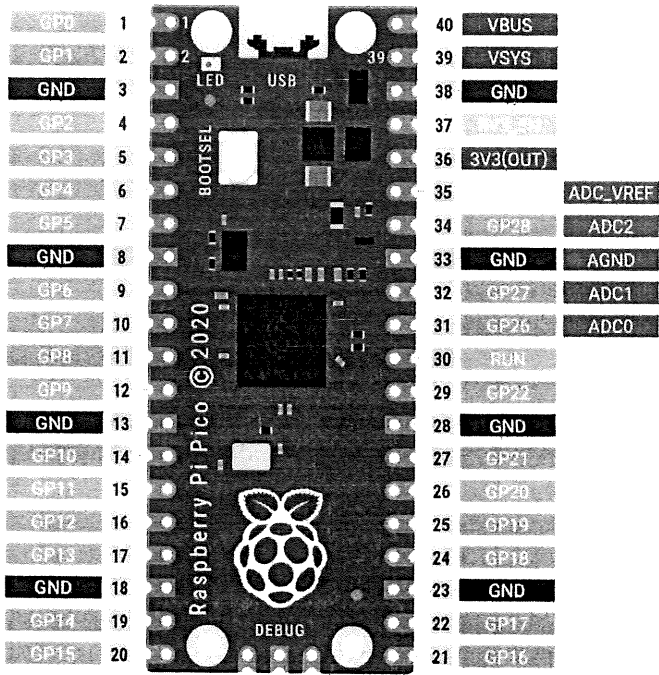
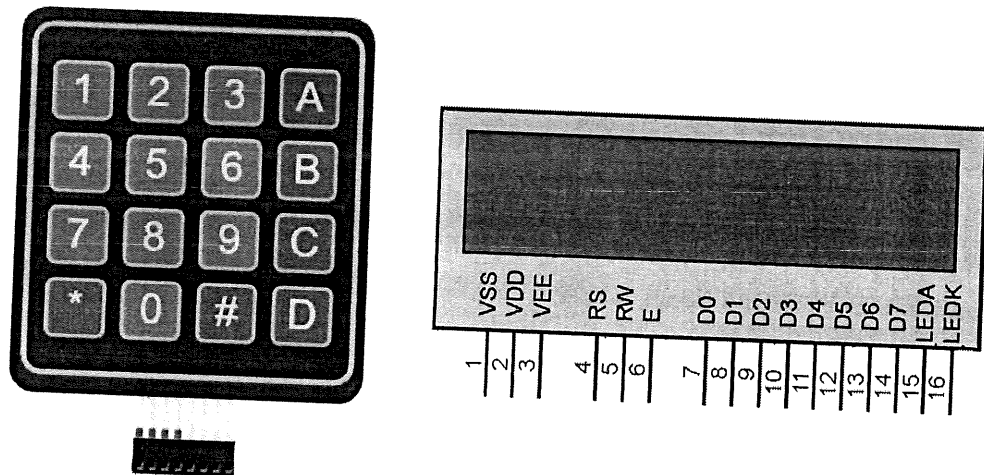

Figure 2: Pi Pico pin out.
Figure 3: keypad and LCD
- i. **Produce** schematic diagram for LED connection. Refer to figure 2 for the raspberry pi Pico pin out.
- i. Referring to the LCD and keypad in figure 3, **produce** the wiring diagram between these devices and the Pi Pico microcontroller. For Pi Pico pin out, refer to figure 2 in question 2. (10 marks)